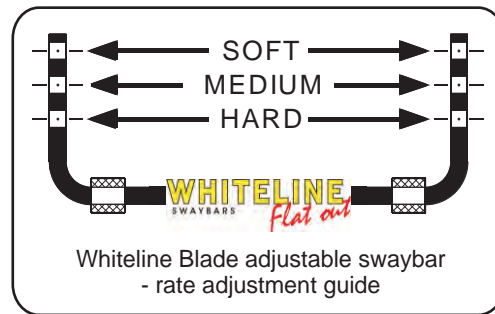

Fig. 1:
7. Connect the links to the outside edge of the swaybar using the remaining 3/8" (50mm long) bolts, washers and nuts as illustrated in fig. 4. For adjustable swaybars, connect to the desired adjustment position, refer to Fig 1.